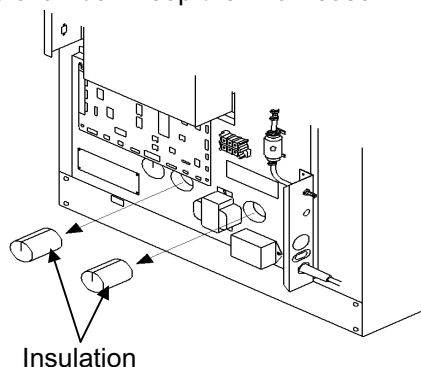

Fig. 3
4. Take 2 insulations out for the UV lamp lead wire hole as shown in Fig. 3. Insulations can be easily taken out by pushing it from inside of the chamber. Keep them for reuse.